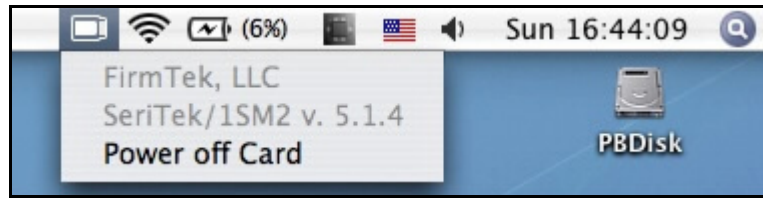

Figure 4: SeriTek/1SM2 Being Identified by the System
5. Click on the CardBus Icon (  ), you should see that the system identifies the card as a storage controller, the SeriTek/1SM2 (see Figure 4). In some circumstances the card may be identified as Unknown Vendor Mass Storage Controller.